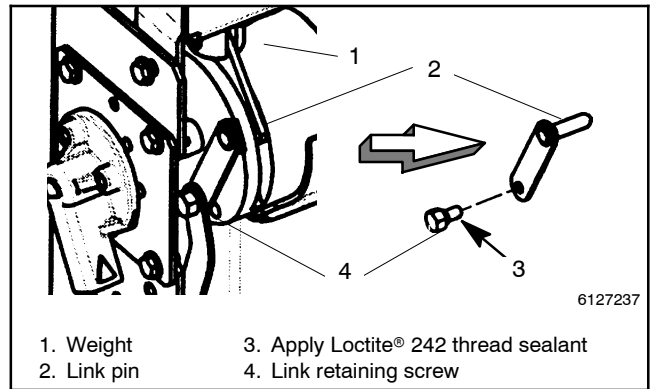

Figure 8-23 Retaining Screw and Link Pin
3. Remove the retaining screw and link pin from the weight. Use a 7/16 in. open-end or box wrench to remove the retaining screw from the left side of the weight. Then remove the link pin from the left side of the weight. See Figure 8-23.
9. Reinstall the link pin and screw it into the weight. Install the link pin into the left side of the weight (through the core link from the solenoid assembly). Apply Loctite® 242 sealant onto the threads of the 1/4-20 link retaining screw. Then install the screw through the control contact link and link pin into the left side of the weight. Use a 7/16 in. open-end or box wrench to tighten the retaining screw. There should be some play to allow movement of the control contact link. See Figure 8-23.